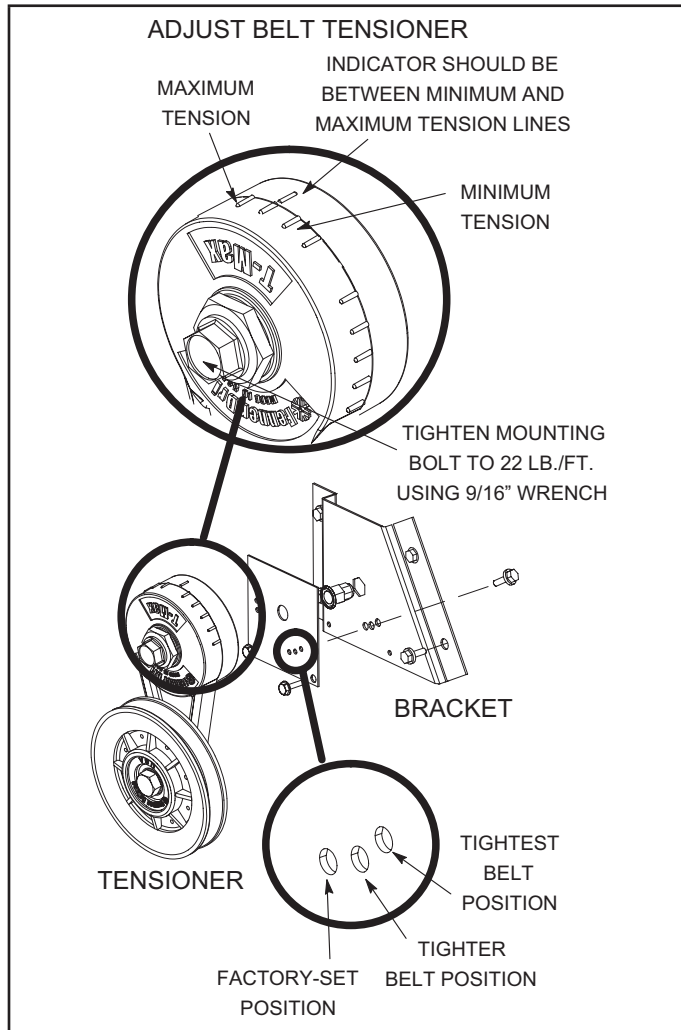

FIGURE 23
- 2 - Remove bracket from blower housing. See FIGURE 23.